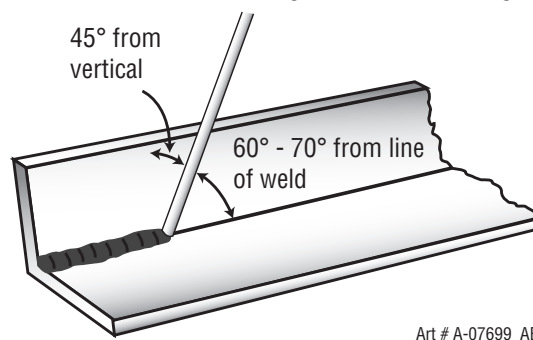
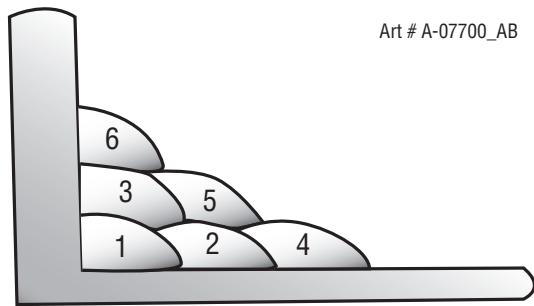

Figure 4-13: Electrode Position for HV Fillet Weld
Figure 4-14: Multi-runs in HV Fillet Weld
A piece of angle iron is a suitable specimen with which to begin, or two lengths of strip steel may be tacked together at right angles. This is known as a horizontal-vertical (HV) fillet. Strike the arc and immediately bring the electrode to a position perpendicular to the line of the fillet and about 45° from the vertical. Some electrodes require to be sloped about 20° away from the perpendicular position to prevent slag from running ahead of the weld. Refer to Figure 4-13. Do not attempt to build up much larger than 6.4mm width with a 3.2mm electrode, otherwise the weld metal tends to sag towards the base, and undercut forms on the vertical leg. Multi-runs can be made as shown in Figure 4-14. Weaving in HV fillet welds is undesirable.